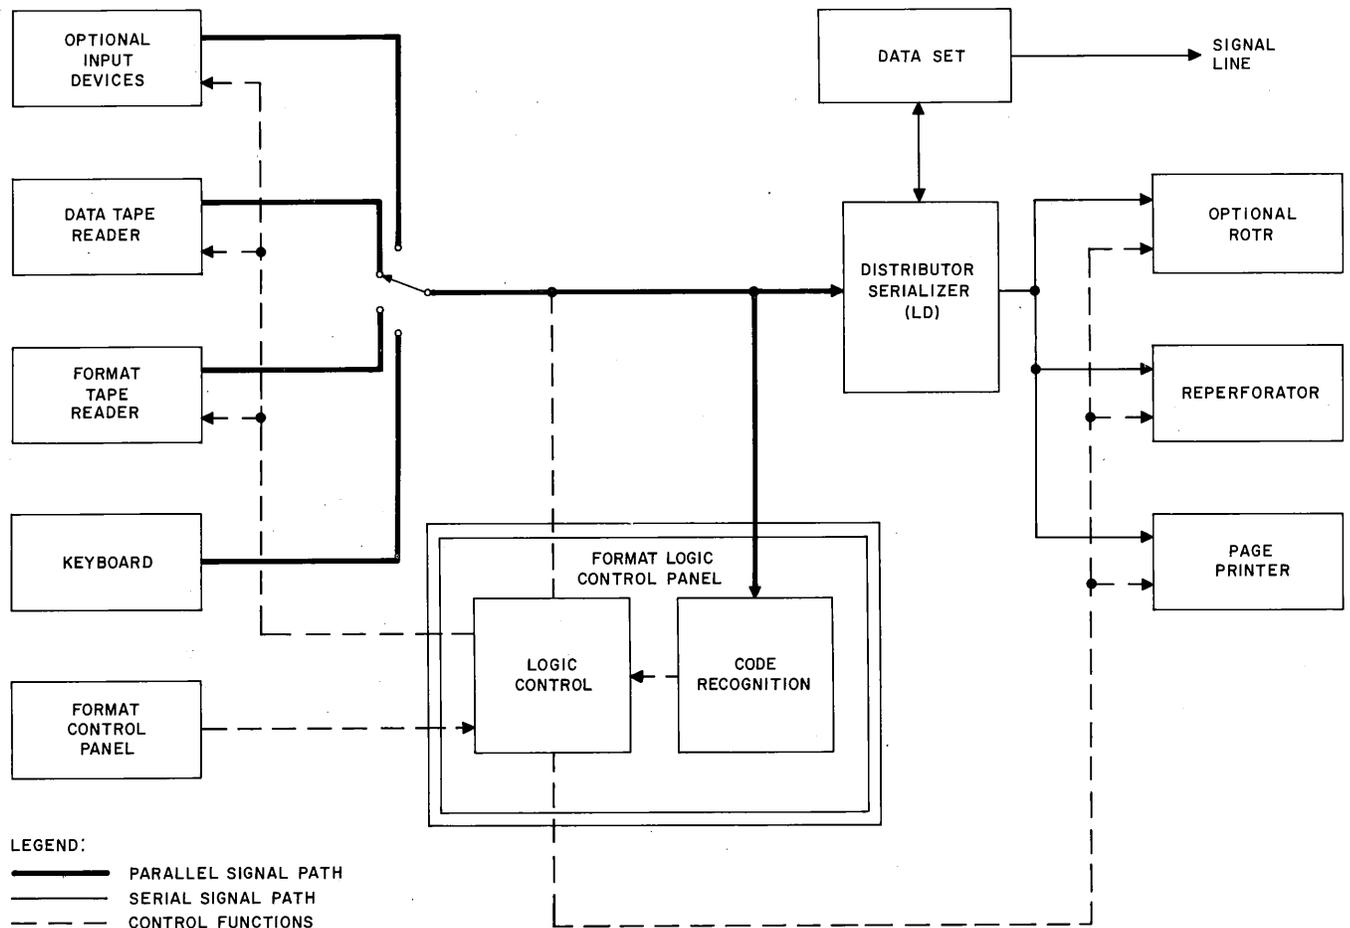

Fig. 12—Format Logic Functions
**3.19** A block diagram which shows the relationship of the format logic panel to the station components is shown in Fig. 12.